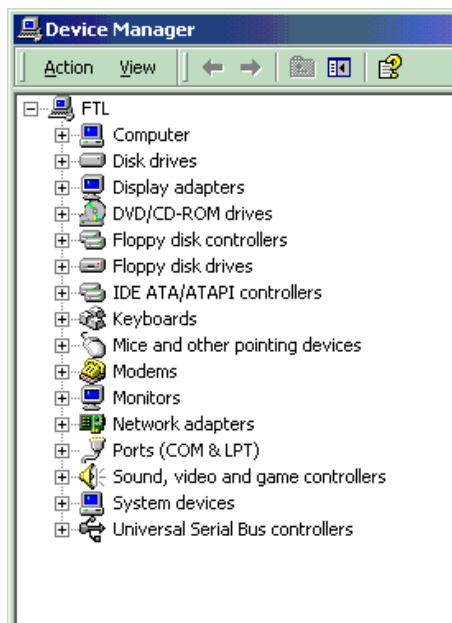

Figure 77. Device Manager Window
2. Click the **Hardware** tab. Then click **Device Manager**. The Device Manager window opens (Figure 77).